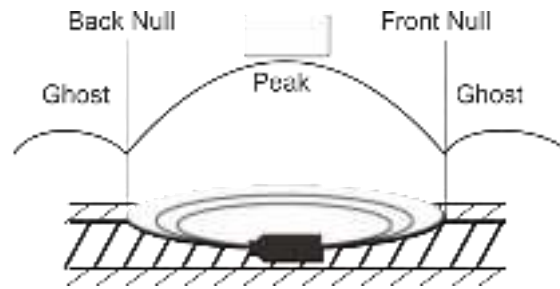

Figure 22
d. **Calculate Depth with "Front Null and Back Null:** The radiation pattern of the transmitter is shown in Figure 22. It can be seen that along its long axis, the signal directly above it is the strongest. The signal gets smaller as you move away from the emitter along its axis. However, there is an abnormal concave point in the front and back, that is, the Null point. The distance between two Null points is related to the depth. The depth of the emitter can be calculated by measuring the Null point.